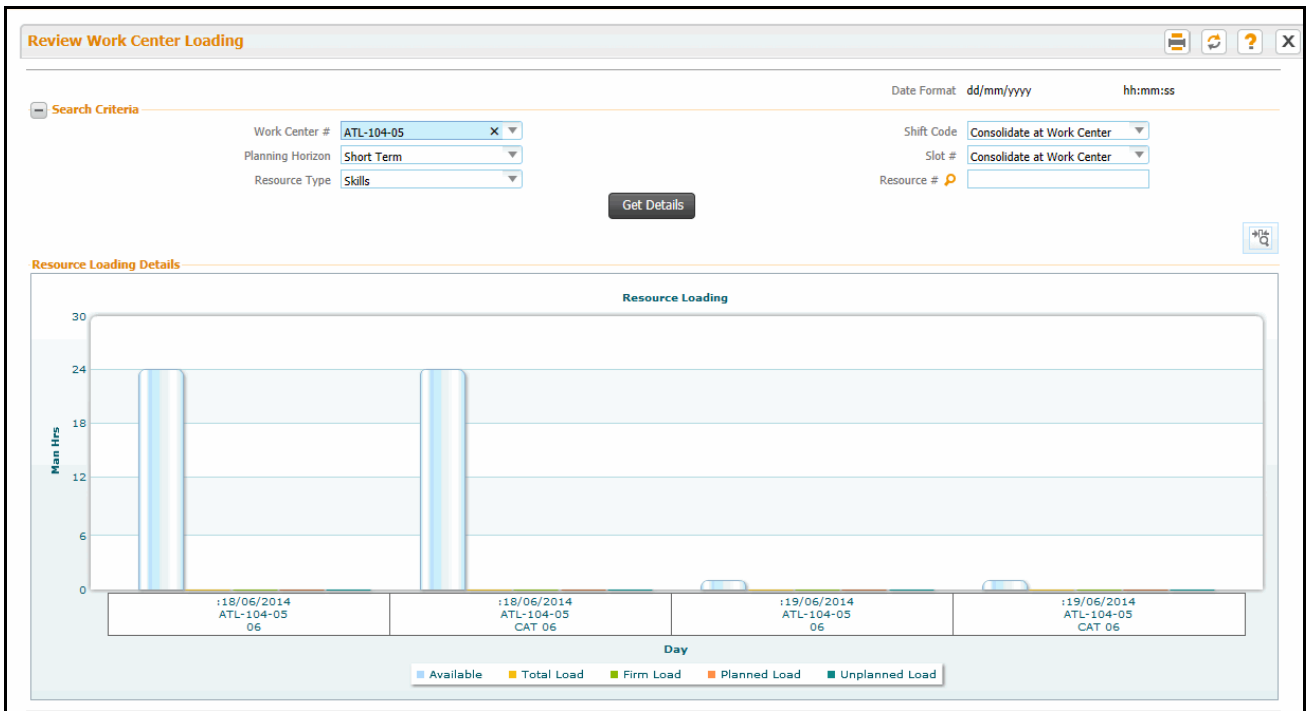

Figure 2.29 Reviewing Work Center Loading
2. Select the **Review Work Center Loading** link in the **Review Fleet Maintenance** page or the **Plan Aircraft Maintenance** page. The Review Work Center Loading page appears. See Figure 2.29.